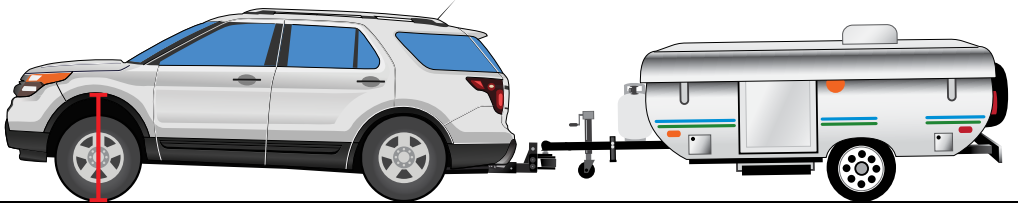

Figure 19
**B** – Lower the trailer onto the hitch ball and lock the coupler. The full weight of the tongue should be resting on the hitch. Measure from the ground to the bottom of the tow vehicle driver side front wheel well. Record this distance on line B of the weight distribution calculation table. (Figure 19)